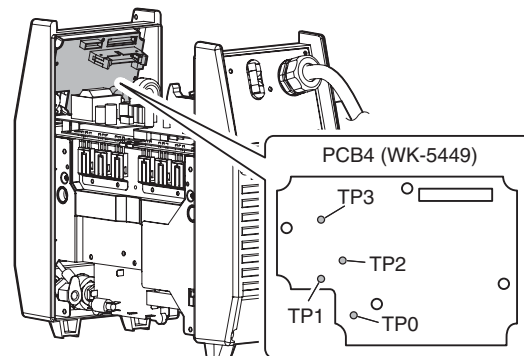

Figure 6-10: Checkpoints TP0-TP3 on PCB6
- 2) On the PCB5 (WK-5448) and PCB4 (WK-5449), measure the voltages according to the following table. The check points and the reference are obtainable on the solder side of PCB4 (WK-5449). The locations of points are indicated in Figure 6-10.